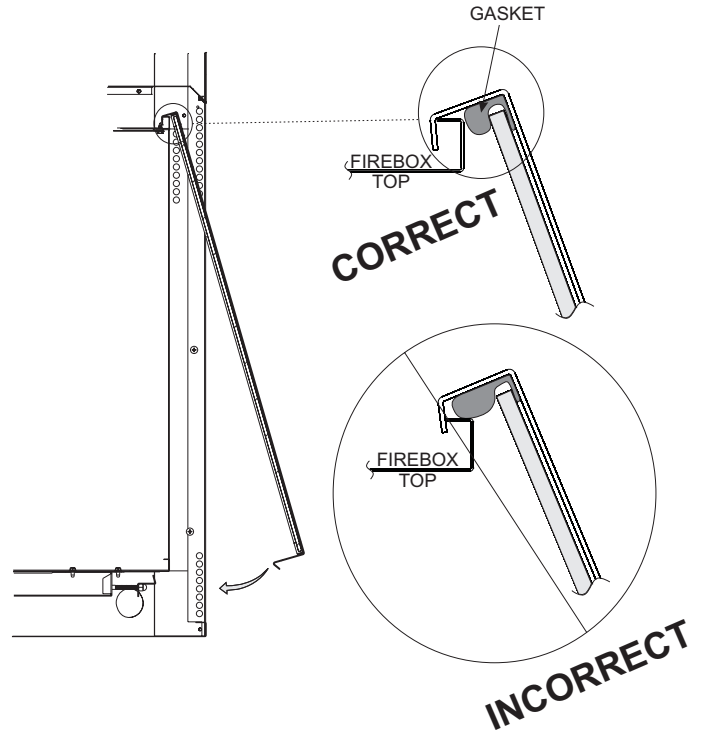

Figure 81
1. When installing the glass door, make sure that the door top flange is hooked over the firebox top flange as illustrated in the "Correct" view in Figure 81.
**Important:** Do not allow the gasket across the top of the door to roll up on top of the firebox flange as shown in "Incorrect" view in Figure 81.
- Check all latches or other door retention components for proper operation, tension, and relief mechanisms are free from obstructions. **See Figure 81.**